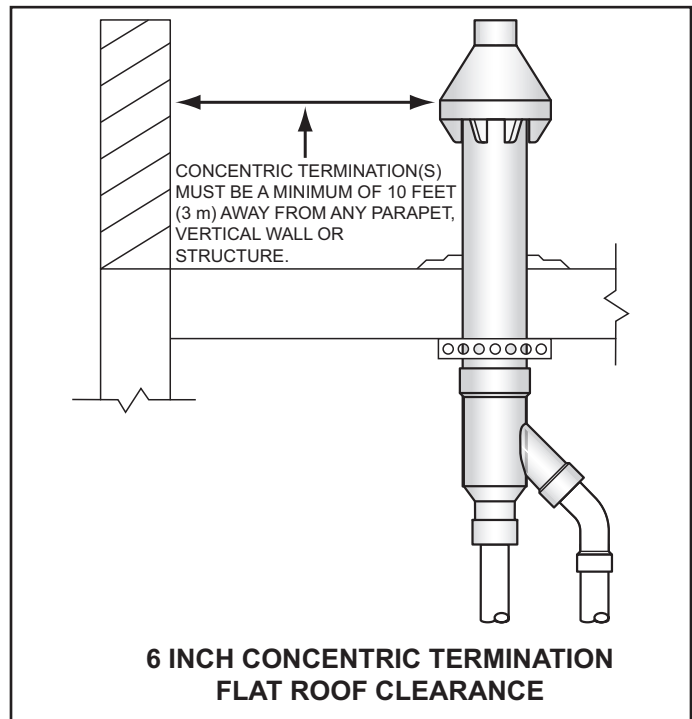
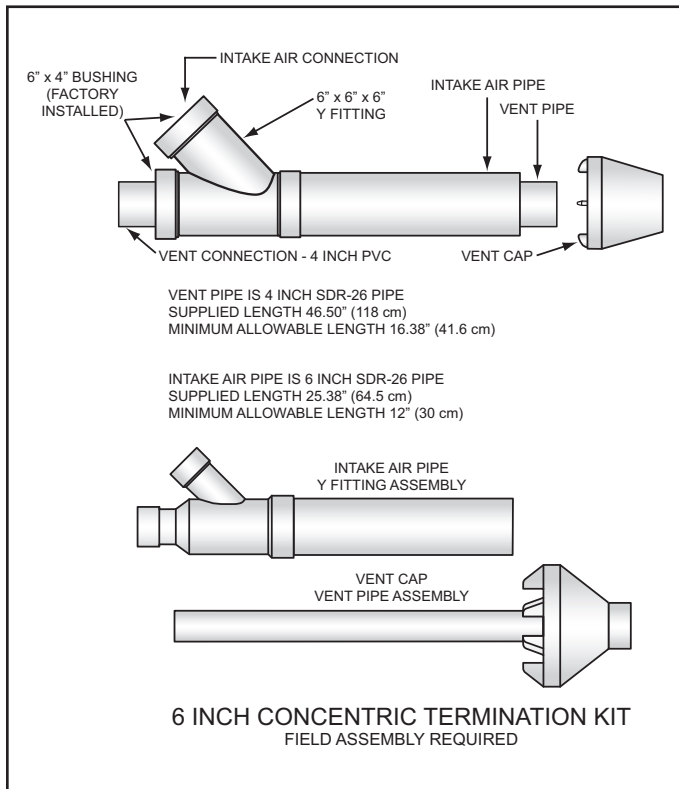
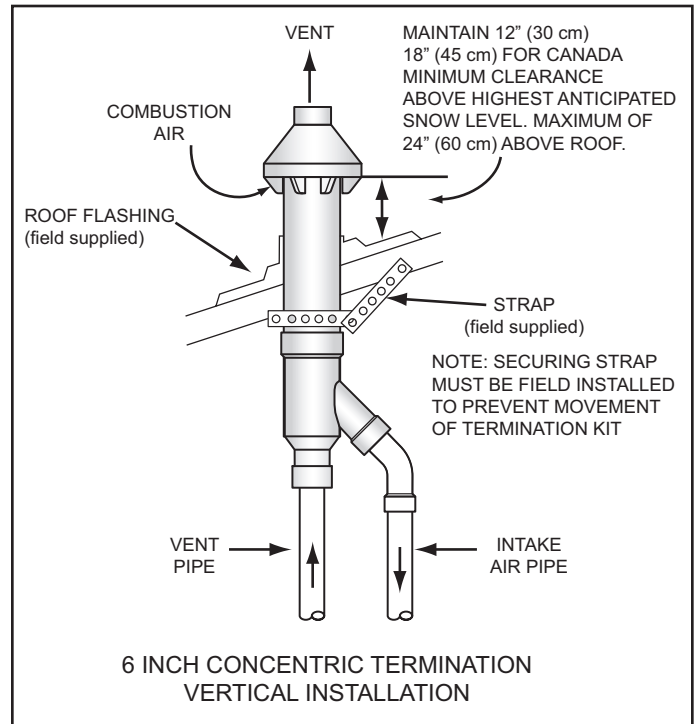
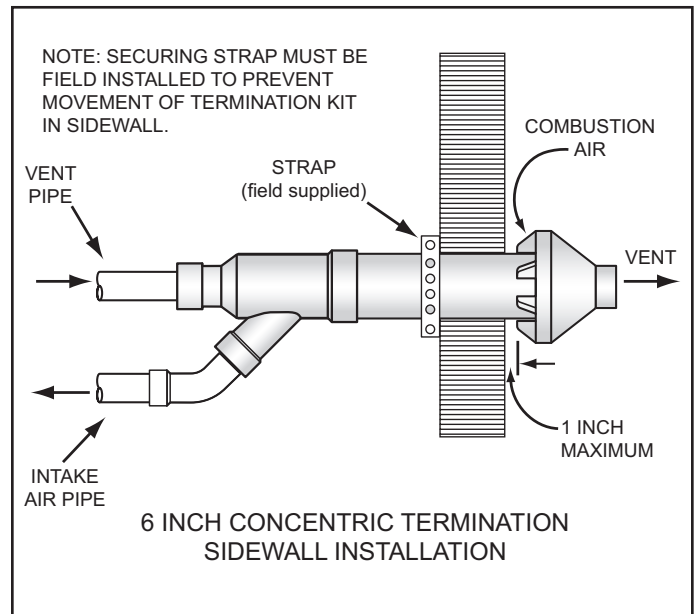

Figure 24
Figure 25
Figure 26
Figure 27
3. When installing a concentric termination vertically through the roof; ensure that all exterior vertical clearance requirements for the concentric termination, shown in Figure 24 and Figure 26 on page 29, are being maintained. These clearances and those cited by local and national codes must be maintained.
4. When installing a concentric termination vertically through a flat roof, the termination's vent cap must be a minimum of 10 feet (3 m) away from any parapet, vertical wall or structure as shown in Figure 24.
See Figure 25 for the minimum lengths allowed for the 4 inch concentric termination.
Assemble and install the 6 inch concentric termination. Refer to Figure 25, Figure 26 and Figure 27 for these instructions: